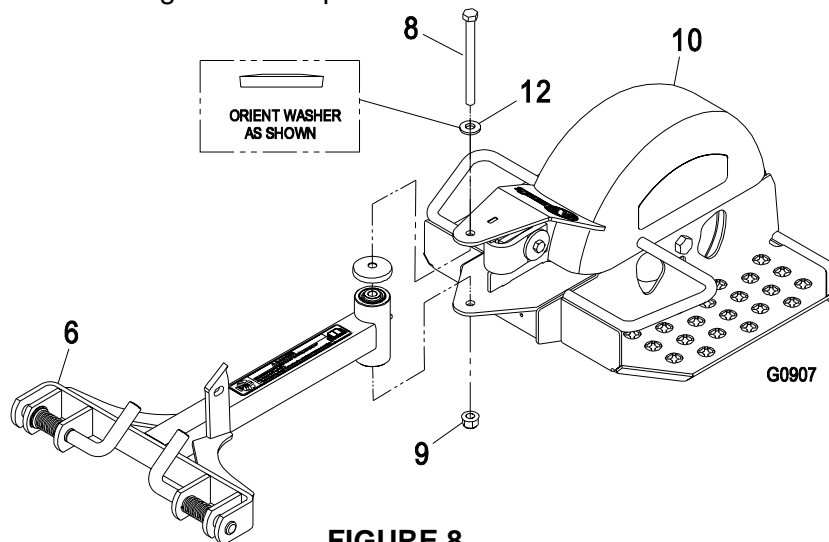

FIGURE 8
5. Remove the 3/8-16 x 4 3/4 hex capscrew (Item 8), Disc spring washer (Item 12), and 3/8-16 Hex Flange side lock nut (Item 9) from the pivot hub. See Figure 8.
6. Locate the Sulky frame assembly (Item 10) and align with the pull arm assembly. Re-install the 3/8-16 x 4 3/4 hex capscrew (Item 8), Disc spring washer (Item 12) (orient as shown), and 3/8-16 Hex Flange side lock nut (Item 9) removed in step 4 as shown in Figure 8. Torque to 35-38 ft-lbs.